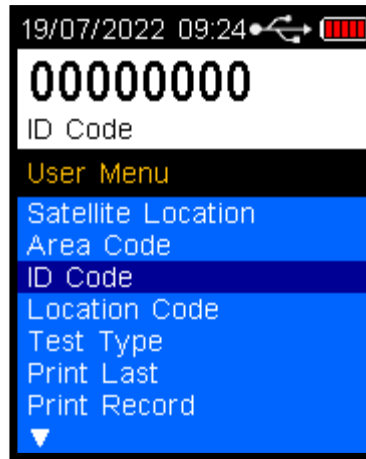

Figure 50 ID Code
- Repeat the above step until all the number required are displayed (Refer Figure 50).